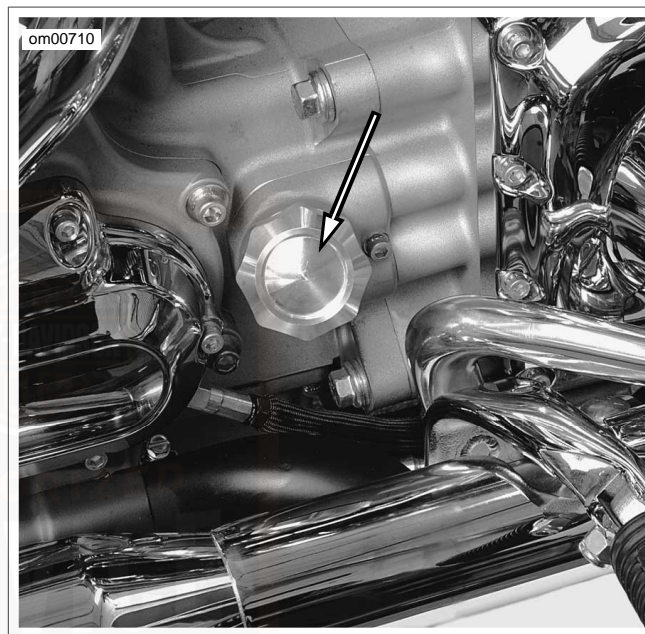

Figure 32. Dipstick Location: Dyna Models
See Figure 32. Dipstick is located on lower right side of engine.
1. See Figure 32. For preride inspection with the vehicle resting on the jiffy stand on level ground, wipe off the dipstick and insert it back into the oil pan with the cap screwed completely into the fill spout.
2. See Figure 32. Unthread the cap to remove the oil filler plug/dipstick.